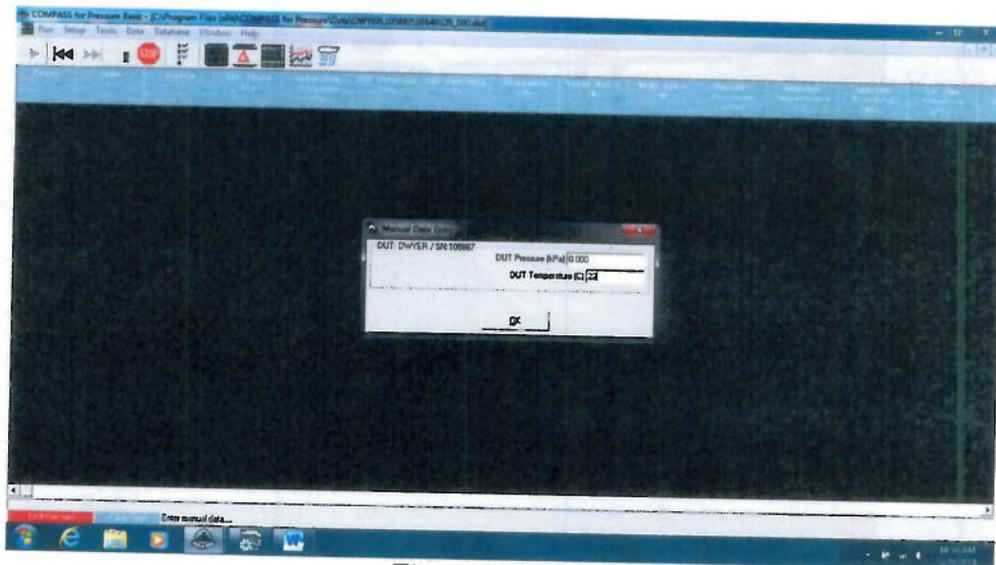

Figure 24
- 11.24 The Compass software will drive the pressure controller to the first set point. (The five points are already pre-programmed into the Compass software for each pressure device type.) When the reference standard reading becomes stable, the following window will pop-up. See Figure 24.